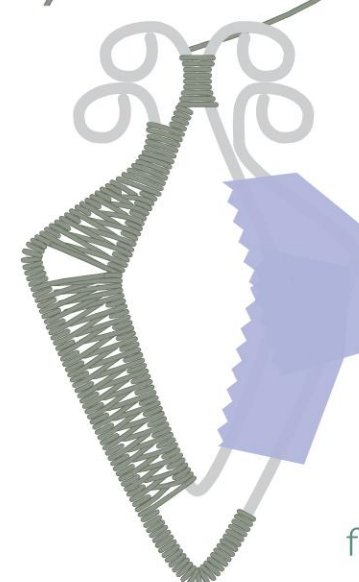

figure 7
- 19 Coil around the bend of the Outer Frame. Count how many times you coil before getting to the center of the bend, coil two times in the center, and then coil the same number as counted. Cut the wire tail (Figure 7). **NOTE:** The last thing I do is cut the beginning weaving wire tail because the coiling can loosen from holding the pendant while weaving, coiling or taping/retaping. With the tail still attached, it is easy to tighten the coil back up if needed before cutting.